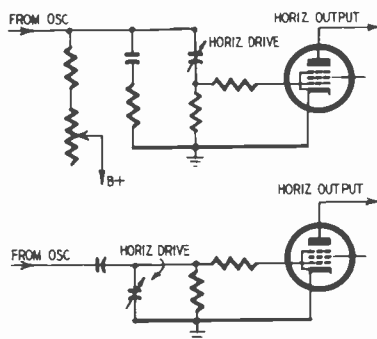

Fig. 9-D. *Typical horizontal-drive control circuits.*
*Fig. 9-C. A photo of the face of the picture tube (before cleaning) is shown at the left. The photo at the right shows the same test pattern after the screen and the mask were cleaned. The high voltage of the picture tube seems to attract dust and will deposit a uniform layer of it over the screen.*
Typical horizontal-drive controls are illustrated in Fig. 9-D.